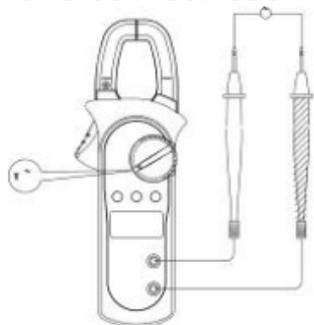

Figure 4
2. AC voltage measurement (V_{\sim}) (shown in Figure 4)